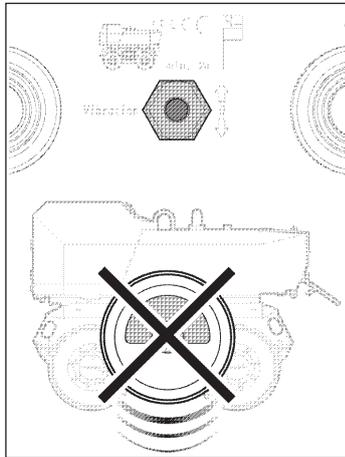

Fig. SE25 Vibration switched off
- Vibration switched off (Fig. SE25)